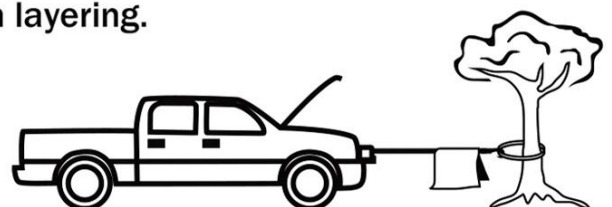

Figure 4
j. When you have attached the hook to the load, it is important to place a wire dampener / blanket / heavy coat over the wire, near the hook end, so that in the event of a hook / rope / attachment point failure, the energy of the rope is directed towards the ground and will help to prevent serious injury or damage. SEE FIGURE 4.